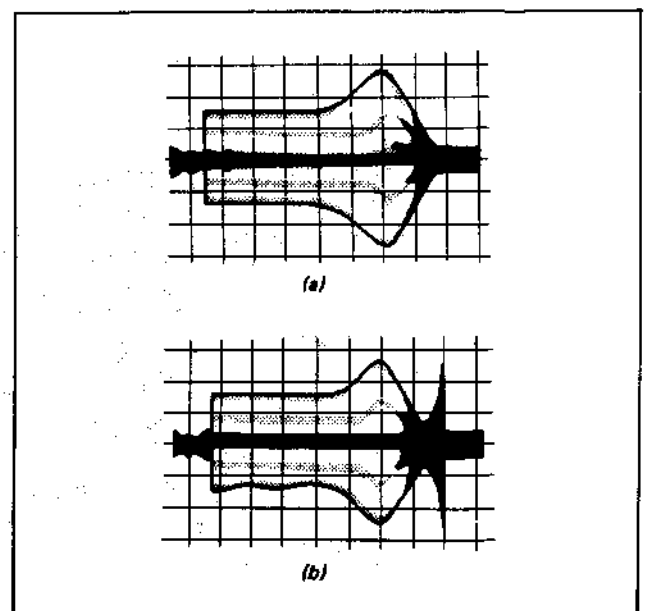

Fig. 4-18.
- 4) At this time, confirm that the exit free waveform is within the range shown Fig 4-18(a) and (b).
- When the exit free waveform is out of the correct range, and is in the form shown in Fig. 4-19, adjust as follows. Loosen the capstan mounting screw, then turn the adjustment screw counterclockwise until the waveform falls within the range shown in Fig. 4-18(a) and (b).
- If the exit waveform is outside of its correct range and has the form shown in Fig. 4-20, adjust as follows. Loosen the capstan mounting screw, then turn the adjustment screw clockwise until the waveform is brought within the range shown in Fig. 4-18(a) and (b).